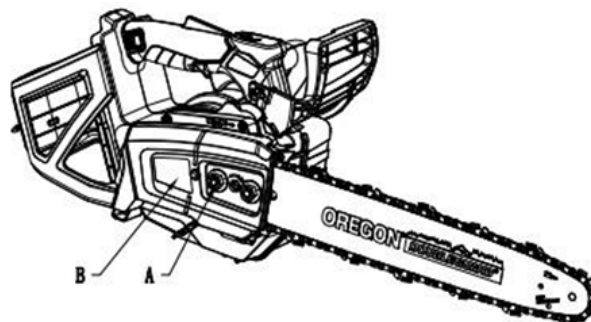

Fig 8
5. Tighten the chain sprocket cover nut (A) to install the chain sprocket cover (B) (Fig. 8).